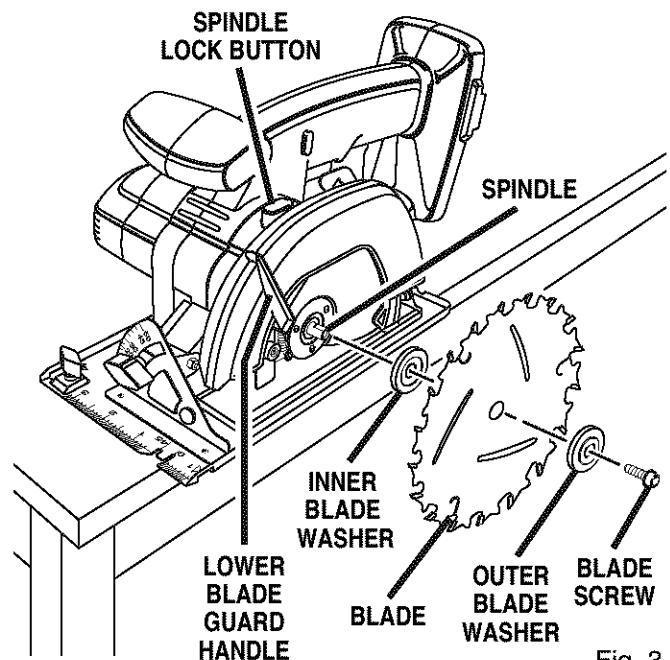

Fig. 3
- Depress spindle lock button and remove blade screw and outer blade washer. See Figure 3.
- Fit saw blade inside lower blade guard and onto spindle. **Note:** The saw teeth point upward at the front of saw as shown in figure 3.
- Remove outer blade washer. *See Figure 3.*